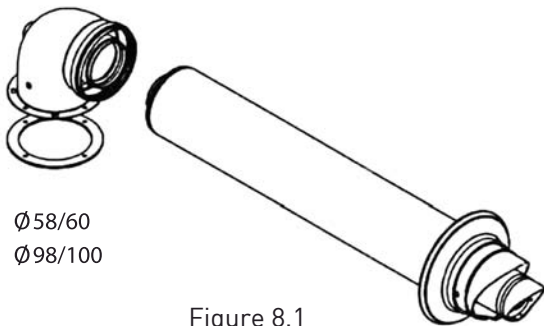

Figure 8.1
8.2 The standard 700 +/-5 mm flue kit (Figure 8.1) can be routed to the rear, left or right of the appliance by means of a 90° degree bend. This can be purchased with the boiler but there are other various types of flue available if required. The bend is connected to the boiler using the screws provided and sealed with the gasket.